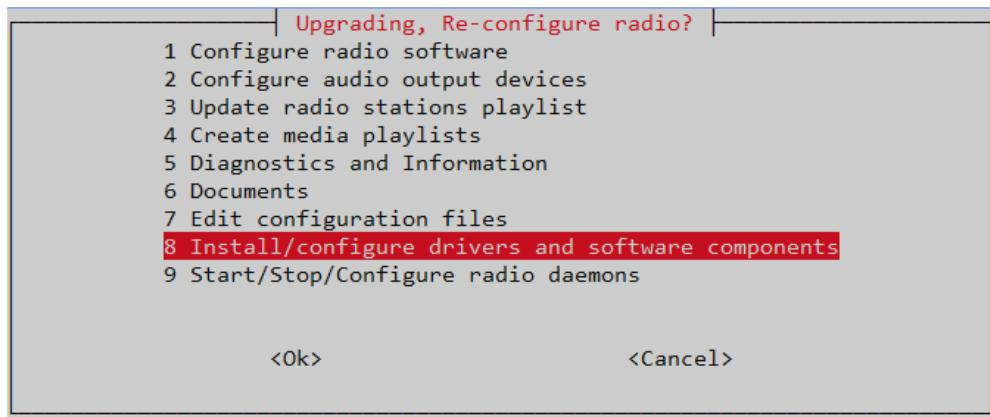

Figure 192 The radio-config menu
- Select option **6 Documents and Tutorials** from the **radio-config** menu shown in *Figure 192 The radio-config menu* on page 138.